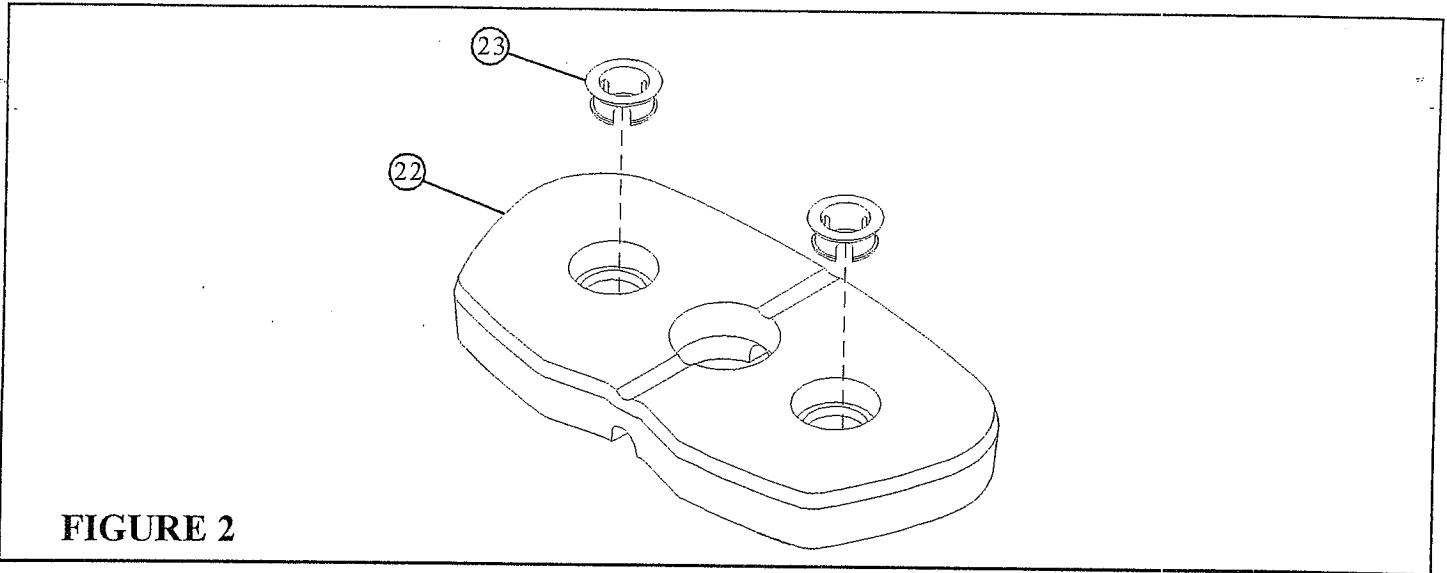

FIGURE 2
- Insert two WEIGHT PLATE BUSHINGS (23) into each of the fifteen WEIGHT PLATES (22) as shown in FIGURE 2.